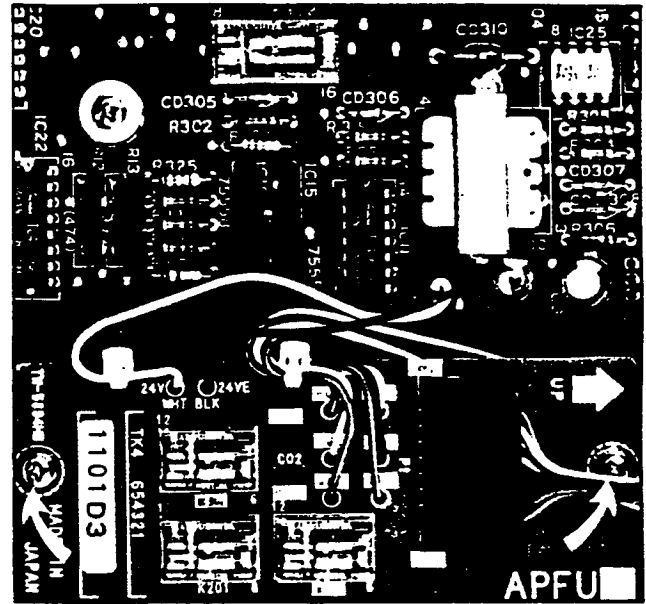

FIGURE 9—MOUNTED APFU PCB
07.21 Secure the APFU to the upper part of the MKSU right side panel with the two screws provided, as shown in Figure 9.